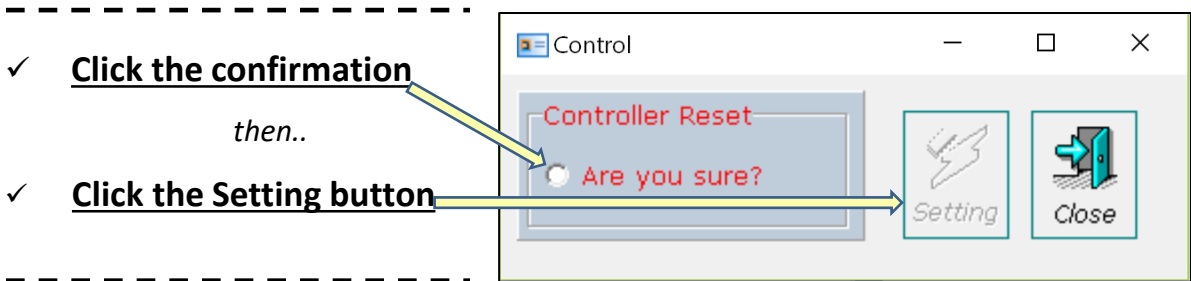

Figure 25. Controller Reset page
- Example (using a typical 24V lead-acid battery, parameters in Figure 25, and $+10^{\circ}\text{C}$ Ambient):